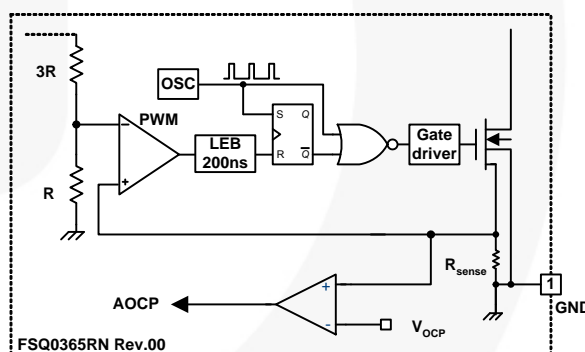

Figure 25. Abnormal Over-Current Protection
4.2 Abnormal Over-Current Protection (AOCP): When the secondary rectifier diodes or the transformer pins are shorted, a steep current with extremely high-di/dt can flow through the SenseFET during the LEB time. Even though the FSQ-series has Overload Protection (OLP), it is not enough to protect the FSQ-series in that abnormal case, since severe current stress is imposed on the SenseFET until OLP triggers. The FSQ-series has an internal Abnormal Over-Current Protection (AOCP) circuit as shown in Figure 25. When the gate turn-on signal is applied to the power SenseFET, the AOCP block is enabled and monitors the current through the sensing resistor. The voltage across the resistor is compared with a preset AOCP level. If the sensing resistor voltage is greater than the AOCP level, the set signal is applied to the latch, resulting in the shutdown of the SMPS.